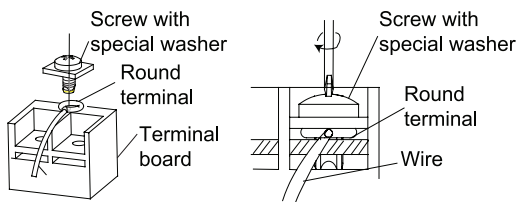

Fig.28
- 4) Position the round terminal wire, and replace and tighten the terminal screw with a screwdriver. (Fig.28)